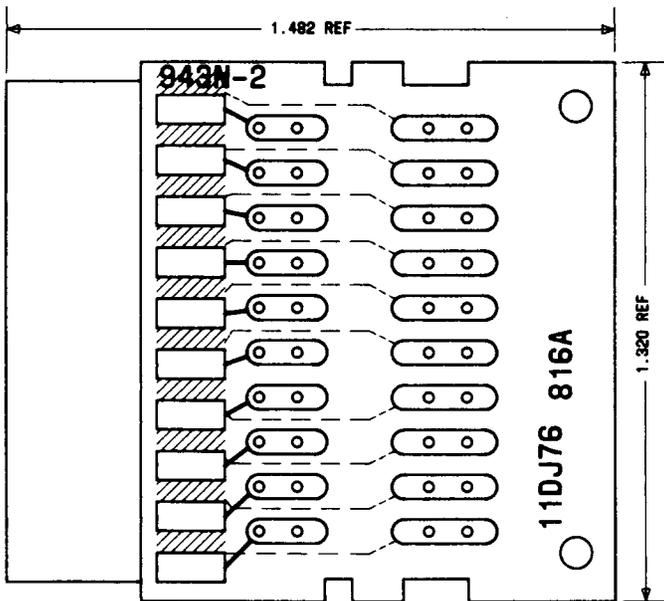

Fig. 8—816A Tester Tool
2.16 **816A:** The 816A tester tool (Fig. 8) is used as a grid removal maintenance tool when removing grids on J1A080A and J1A081A remreed frames.